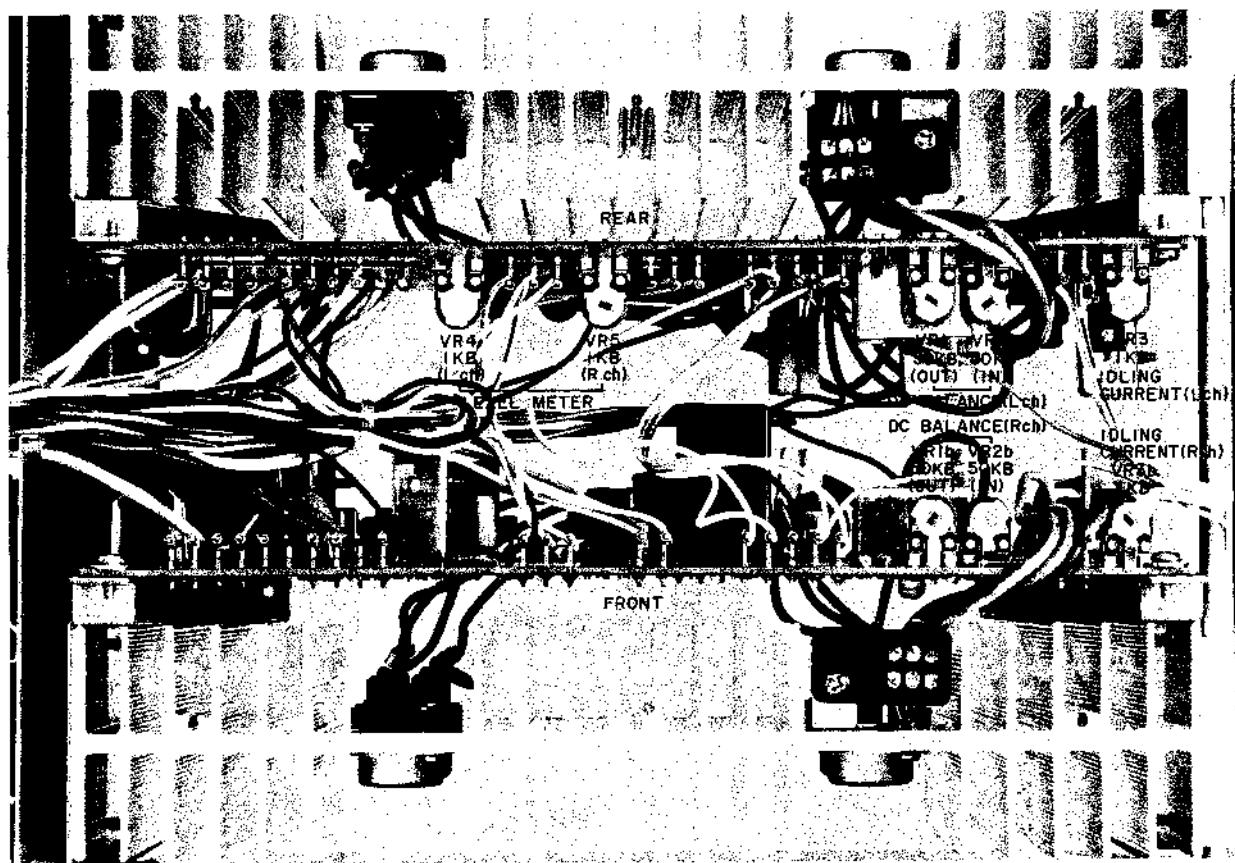
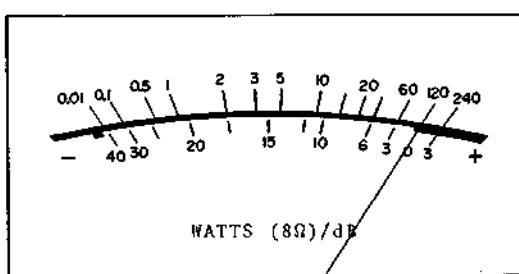

Fig. 14 Main Amp Adjust Point
Fig. 18 Level Meter
#### 1. Idling Current Adjustment (Refer to Fig. 14, 15)
## 2. DC Balance Adjustment (Refer to Fig. 14, 16)
## 3. Level Meter Indication Adjustment (Refer to Fig. 14, 17, 18)
- 4) Now, adjust VR4 (Right) on the Main Amp P.C board (see Fig. 14) until each POWER LEVEL meter deflects to the mark "120". (see Fig. 18)